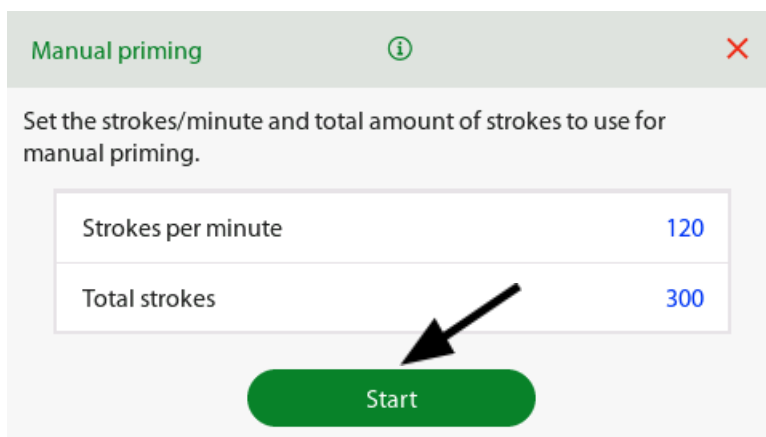

Figure 41
4. Click on '**Start**' and wait until the programme is ready (see Figure 41).